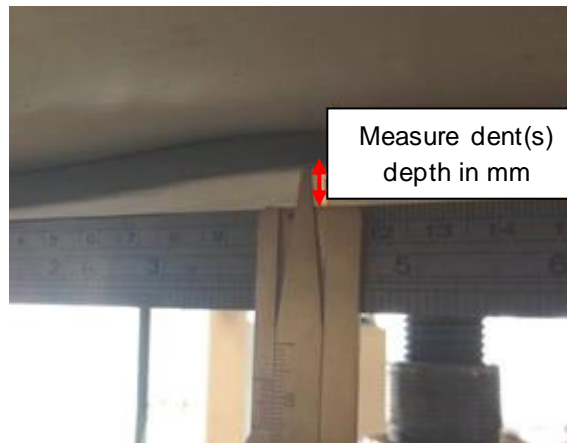

Figure 8 – Measuring the depth of enclosure damage
- a. Several pictures of the damage, taken with a high-resolution camera: If there isn't a visible open hole, crack, or tear, measure the depth of the HV battery enclosure damage (Figure 8) **while wearing proper PPE**. If the damage is not obvious, take an overall picture of the HV battery, with pointers to the damaged area(s).